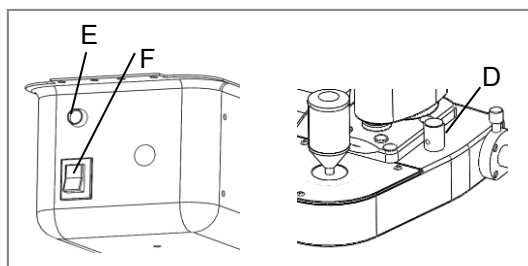

Fig. 19: Illumination Controls
- 6) Press the main power switch to turn the Slit Lamp on. Check the pilot lamp indicates power is on(Fig. 19(F and E)).
- 1) Adjust the brightness of illumination by turning Illumination knob (Fig. 19(D)).